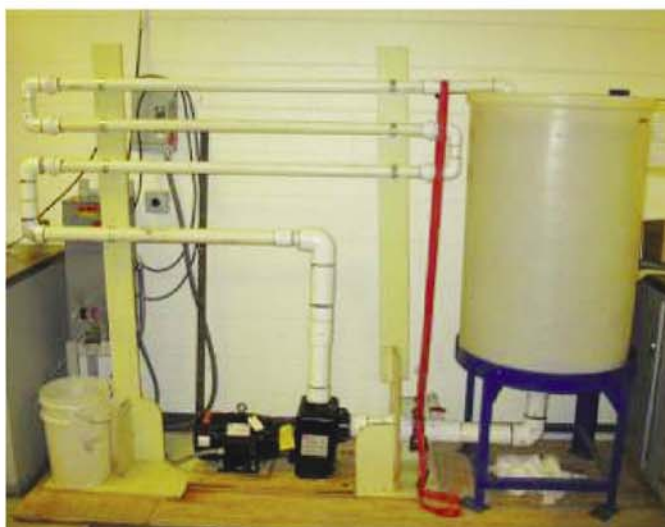

Fig. 1: High Flow Water Test set up. Samples are placed inside the PVC pipe. Figures courtesy of the authors.
deionized (DI) water. This is a modified version of ASTM D870. Prohesion (PRO) samples were rotated between the accelerated weathering test (QUV) and salt fog test chambers (ASTM D5894). In a modified Prohesion test, a second group, "BOR test" group, was rotated among QUV, salt fog, and immersion testing as follows: QUV-FOG-IMMERSION-FOG. Both groups were rotated at one-week intervals. In addition, a group was subjected to high velocity immersion in deionized water (DIFT). The velocity across the samples is estimated to be between 25 and 30 ft/s. This setup simulates flow rates in penstocks and outlet works throughout Reclamation's infrastructure (Fig. 1). The test matrix is presented in Table 2.